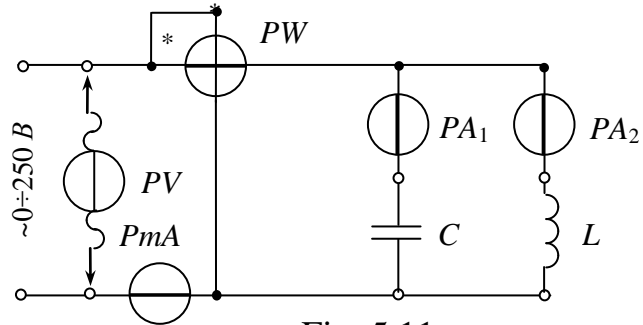

Fig. 5.11
1. To collect the circuit (fig. 5.11) and connect it to the clamps $\langle \sim \rangle \langle 0 \div 250 V \rangle$. To place $LATR$ switch in the position $\langle \sim \rangle, 0 \div 250 V$.
The name and purpose of the work. Homework – the calculation of the circuit. Schematic diagram of the investigated circuit (fig 5.11). Tables 5.2, 5.3. The vector diagrams. Conclusions.